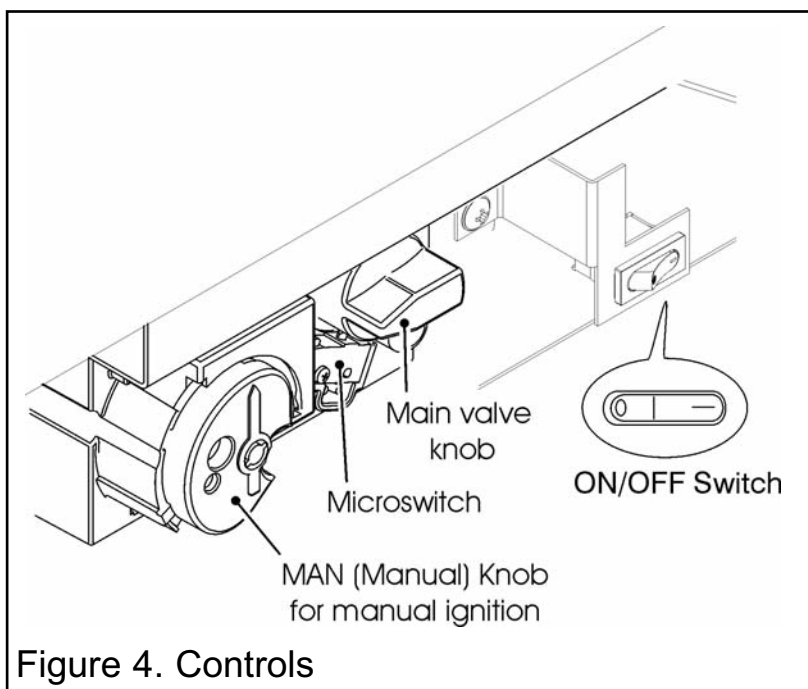

Figure 4. Controls
2. The 'main valve knob' is the knob on the right hand side (See figure 4). Turn this knob to the 'OFF', fully clockwise position .